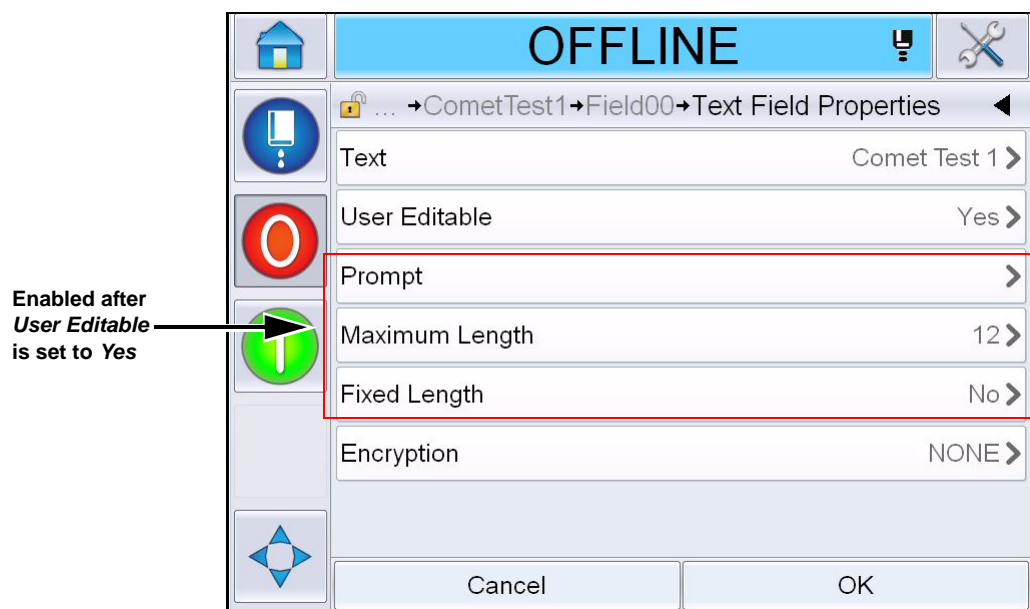

Figure 5-56: Additional Text Field Properties Screen
- 3 Touch *User Editable* and select *Yes*. A list of additional fields appear (see Figure 5-56 on page 5-61).